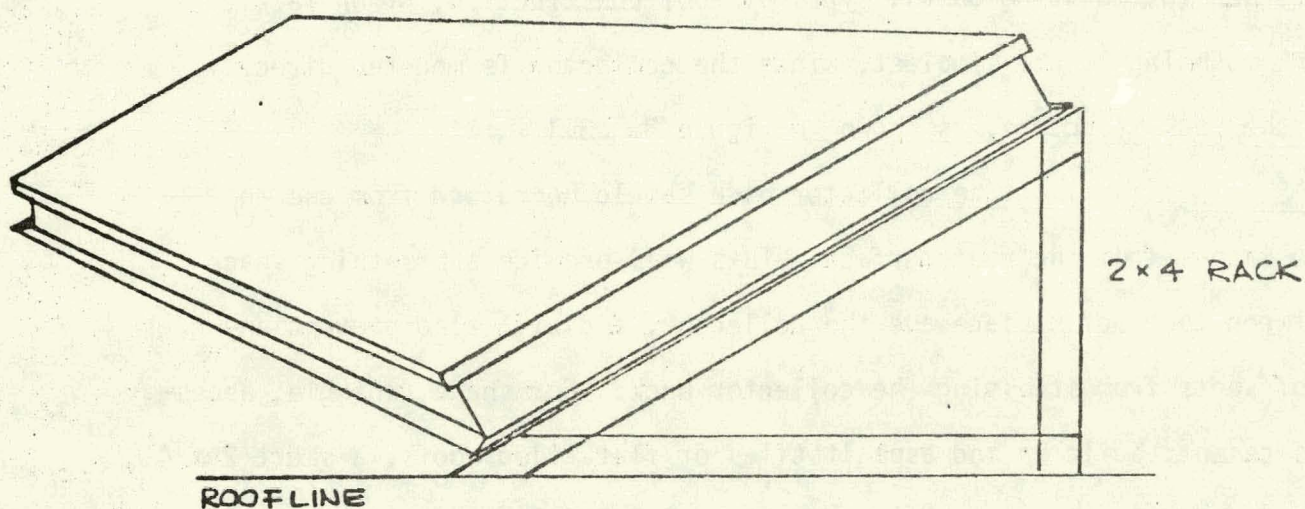

FIGURE 3.2.3.1. RACK MOUNTING
3.2.3 Mounting Collectors: SUNSPOT Collectors have been designed for mounting on all types of roof construction, or on racks. Rack mounting is the simplest, since the collector is mounted directly on the rack structure, as shown in Figure 3.2.3.1.
The collector back should be raised from one to two inches from the roof surface. This will provide a breathing space between the roof surface and the collector, and will also prevent any high roof spots from stressing the collector back. For shake, shingle, asbestos cement, built up and asphalt tiles or flat tiled roofs, a short 2 x 4 redwood or aluminum spacer is adequate. A longer spacer is required for mounting collectors on Spanish tiles. Both mounting techniques are illustrated In Figure 3.2.3.2.
3.2.4 Securing Collectors: The flange on the collector box is provided with a scribed line to be used as the center location of holes to be drilled to accomodate tie down lagscrews. These holes may be made at any of four to six locations on the periphery of the collector. The lag screws should be 1/4" in diameter, and must be long enough to reach well into the roof structure beneath the roof cladding. Figure 3.2.3.2. illustrates a typical cross section.